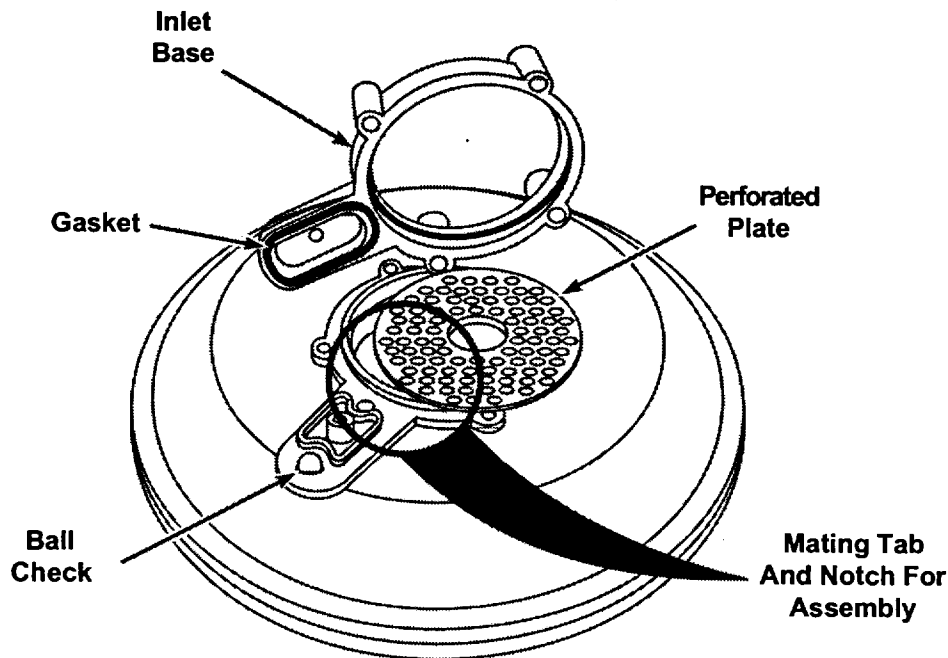

Fig. 16
8. Place a new seal in the water inlet base. Replace the perforated plate, making sure that the plate tabs are in the locating notches on the water inlet base. (Fig. 16)
9. Replace the Torx screw securing the water inlet base to the bottom of the separator. (Fig. 16)